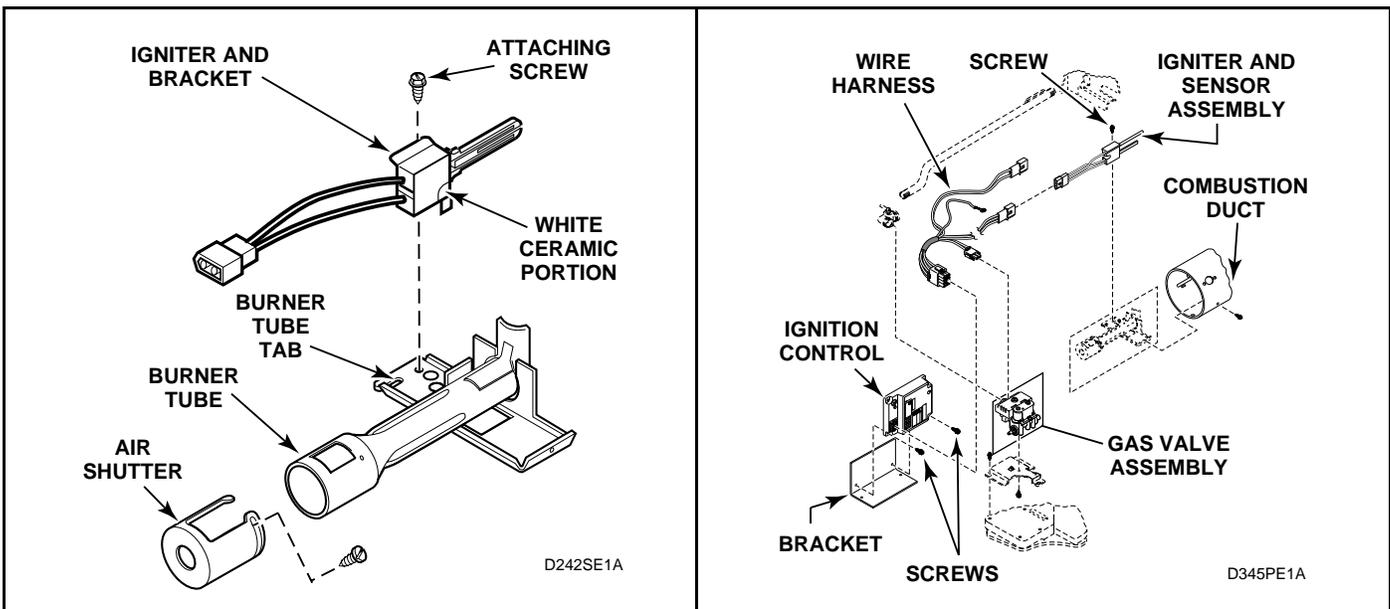

Figure 37
- (1.) Remove one screw from right side of burner housing holding burner tube in place. See *Figure 37*.
- (5.) Remove screw holding igniter and bracket to burner tube and remove igniter and bracket. See *Figure 37*.
- (3.) Remove screws holding ignition control to bracket. See *Figure 37*.
- (4.) Carefully remove ignition control. See *Figure 37*.